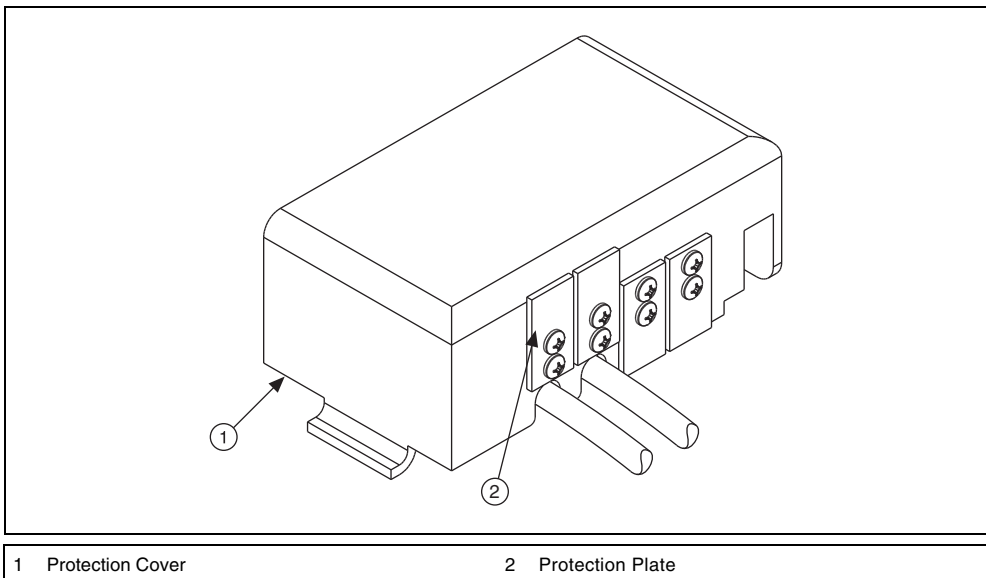

Figure 11. Protection Cover and Protection Plates: Used Axes 1 & 2, Unused Axes 3 & 4.
3. Remove the protection plates for the axes to be used, rotate, and re-install the protection plates in the open position, as shown in Figure 11.
Note The protection plates for any unused axes should remain installed in the closed position at all times, as shown on axes 3 and 4 in Figure 11. For axes you are using, the protection plates must be removed, rotated, and re-installed in the open position, as shown on axes 1 and 2 in Figure 11.